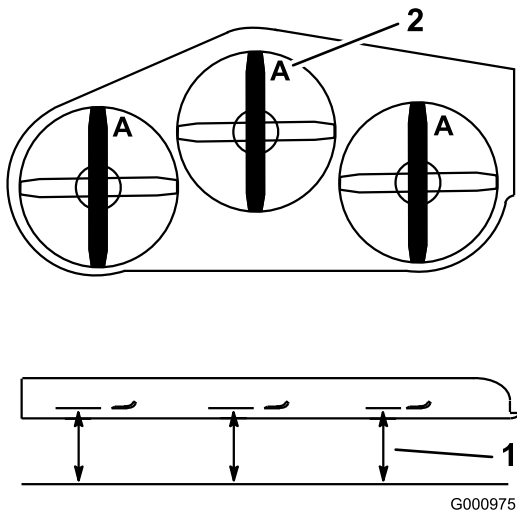

Figure 76
3. Rotate the blades until the ends face forward and backward. Measure from a level surface to the cutting edge, position **A**, of the blades (Figure 76). Note this dimension.